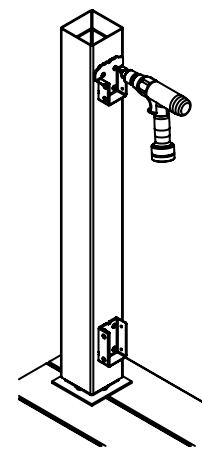

Figure 2d
Square and center the top mounting bracket on mark and pre-drill four 5/32" holes. Screw into place using four (4) #12 x 1" S.S. flat head screws (See Figure 2d) Repeat on opposite post.